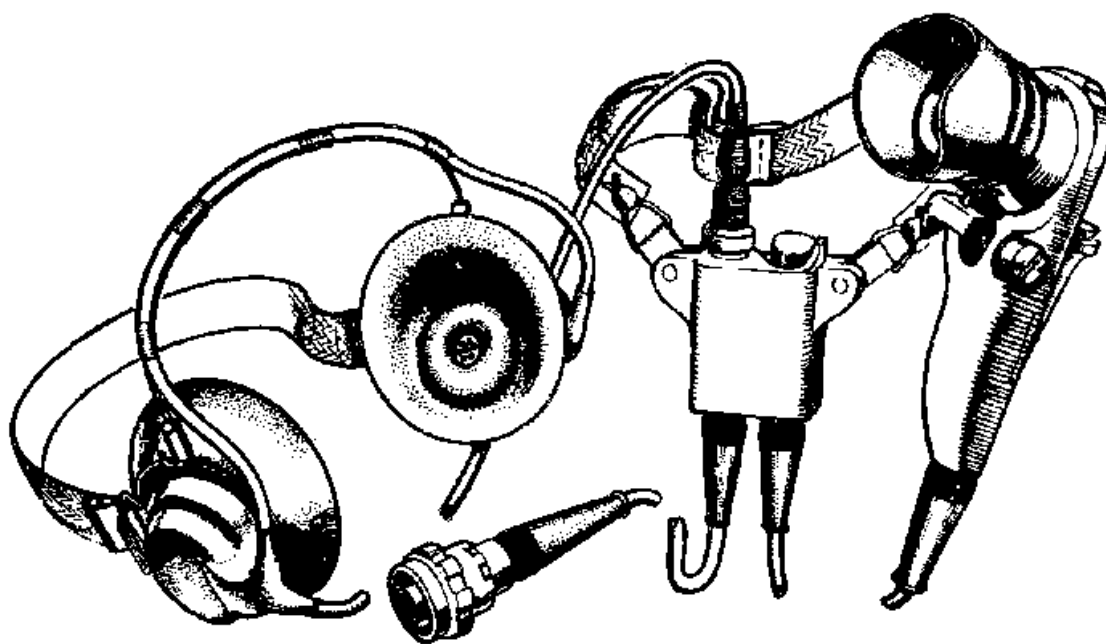

Figure 19
47. This is the microphone and headphones used by all crew members except the commander. Separate connectors from the microphone and receivers are joined at a small junction box (breastplate) which normally hangs from the users neck on a web strap. The junction box can be attached to any 6 pin microphone socket on the control units. A snatch plug connects the receiver phones to the junction box, which is itself attached to the webbing neckband harness by means of stud fasteners. The snatch plug and fasteners will easily part if given a sharp pull. A press-to-talk switch on the microphone performs send-receive switching, this switch being readily manipulated with either hand. A respirator plug socket is fitted to the side of the microphone body. The purpose of this socket is to enable a remote microphone in a respirator mask to be connected to the No. 6. The webbing neck strap and the earphone strap are adjustable. (See figure 19).